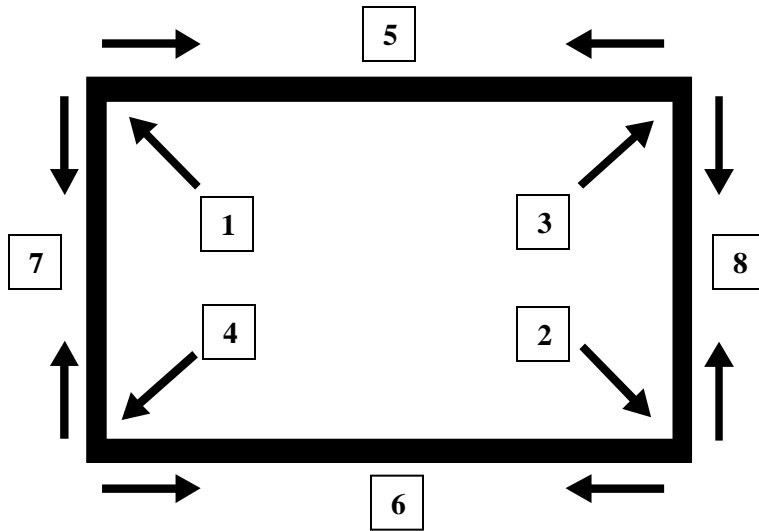

Fig.1
For front projection, assemble and view the screen as indicated in Fig.1.
1. Take the *screen material (D)* out of the *screen material bag (E)* and align the corners of the screen material with the inside corners of the frame.
2. Once the screen material is fully extended, secure the material by snapping the buttons onto the frame studs. Fasten the buttons in the following order as shown on **Fig.1**.